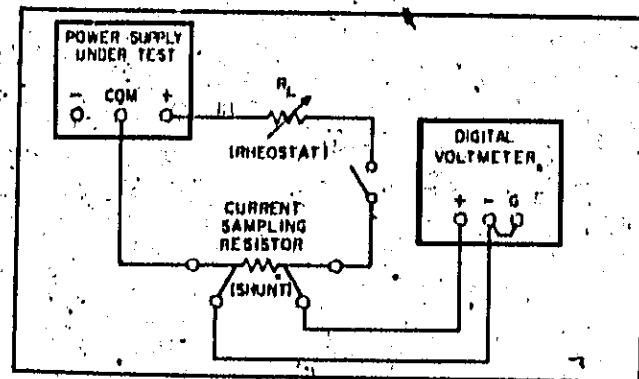

Figure 5-3. Output Current, Test Setup
f. Connect the test setup shown in Figure 5-3 to the +6V (or +18V) output. Make the total resistance of R_L and the current sampling resistor 2.4 ohms for the Model 6236A (or 18 ohms for the 6237A) to permit operating (the output at full load). R_L should have a power rating of at least 20 watts.
j. Check the rated output and ammeter accuracy of the +20V and -20V supplies similarly by connecting the test setup of Figure 5-3 to each output in turn. For each 20V supply: make the total resistance of R_L and the current sampling resistor 40 ohms, set the +20V VOLTAGE control for a current indication on the DVM of 0.5A, check that the panel meter indication is within 4% of 0.5A, connect the DVM to the fully loaded output terminals, and compare the output voltage before and after the load circuit is opened. The voltage should not change by more than 4mV. While checking each supply, the other two must be fully loaded.
l. Connect the test setup shown in Figure 5-3 to the +20V output. Substitute a short for R_L and leave the load circuit switch open.
q. (Steps (q) through (s) apply to the 6236A only.) Connect the test setup shown in Figure 5-3 to the +6V output. Close the switch, set the total resistance of R_L and the current sampling resistor to an initial value of 2.4 ohms or greater, and set the output voltage to 6 volts.